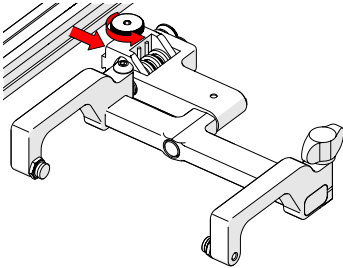

Fig. 114 - Attach probe holder
1. Rotate the probe holder adjustment knob (Fig. 114) and attach the probe holder to a pivot mount of a raster arm or frame bar. Tighten the probe holder adjustment knob.